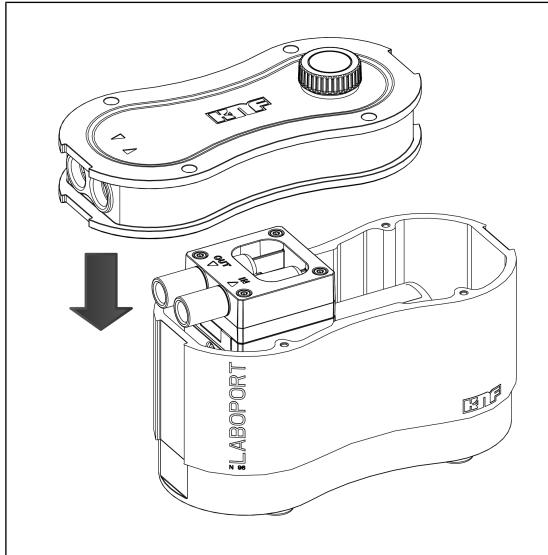

Fig.12: Mounting the housing cover
1. Carefully place the housing cover (Fig. 7/2) on the pump housing (3) (see Fig. 12).